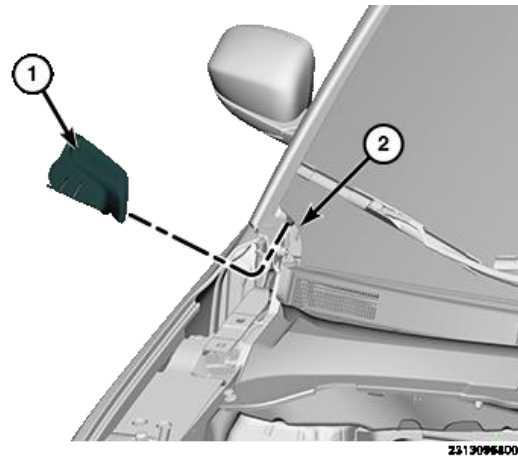

Figure 15 – Cowl End Cap
32. Push down and inward to release the cowl panel end cap (1) rear hook from windshield (2) (Figure 15).
57. Install the cowl panel end cap (1) rear hook to windshield (2) (Figure 15).